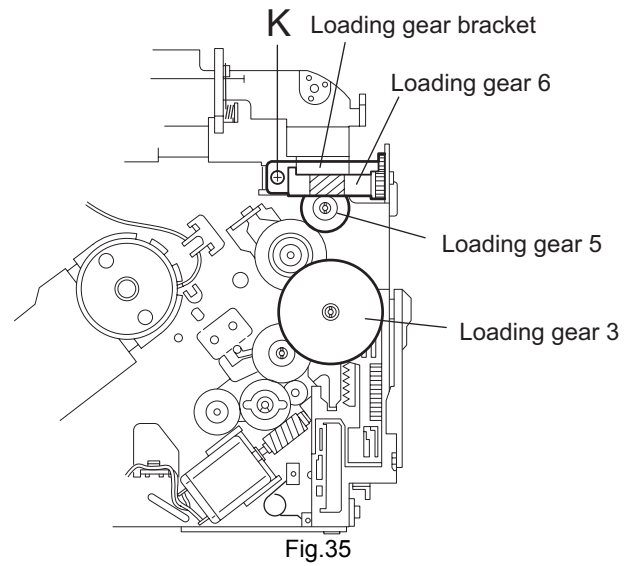
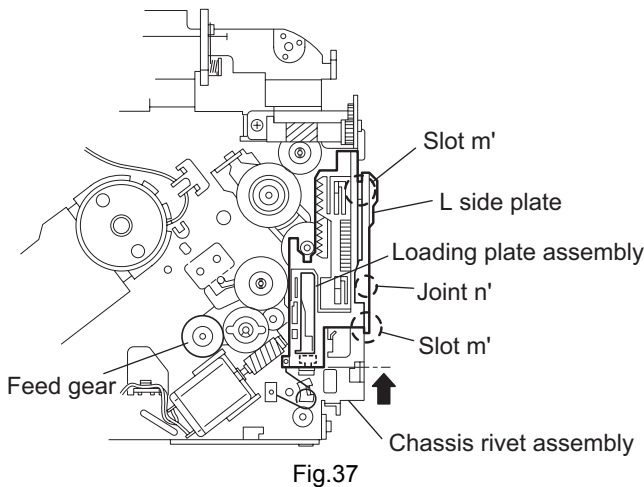
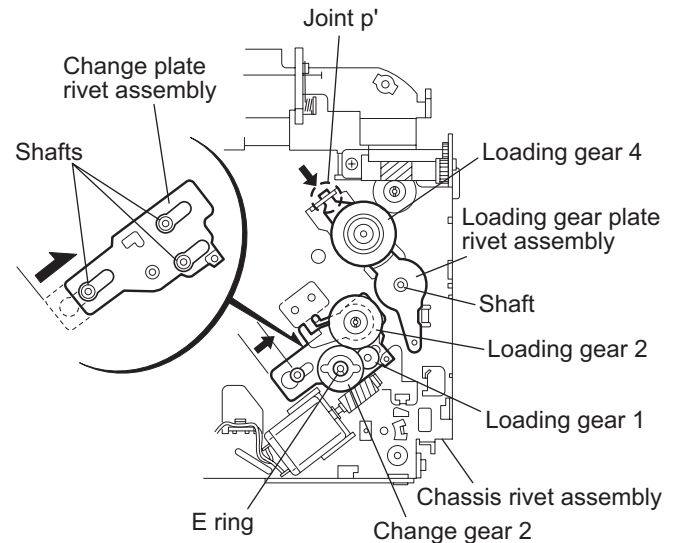

Fig.35
Fig.37
Fig.38
### 2.2.16 Removing the loading gear 5, 6 and 7 (See Figs.35 and 36)
(See Figs.37 to 40)
- Pull out the loading gear 3. (See Fig.35.)
- (1) Pull out the feed gear.
- (2) Move the loading plate assembly in the direction of the arrow to release the L side plate from the two slots m' of the chassis rivet assembly. (See Fig.37.)
- (3) Detach the loading plate assembly upward from the chassis rivet assembly while releasing the joint n'. Remove the slide hook and loading plate spring from the loading plate assembly.
- (4) Pull out the loading gear 2 and remove the change lock lever.
- (5) Remove the E ring and washer attaching the changer gear 2.
- (6) The changer gear 2, change gear spring and adjusting washer come off.
- (7) Remove the loading gear 1.
- (8) Move the change plate rivet assembly in the direction of the arrow to release from the three shafts of the chassis rivet assembly upward. (See Fig.38.)
- (9) Detach the loading gear plate rivet assembly from the shaft of the chassis rivet assembly upward while releasing the joint p'. (See Figs.38 and 40.)
- (10) Pull out the loading gear 4.